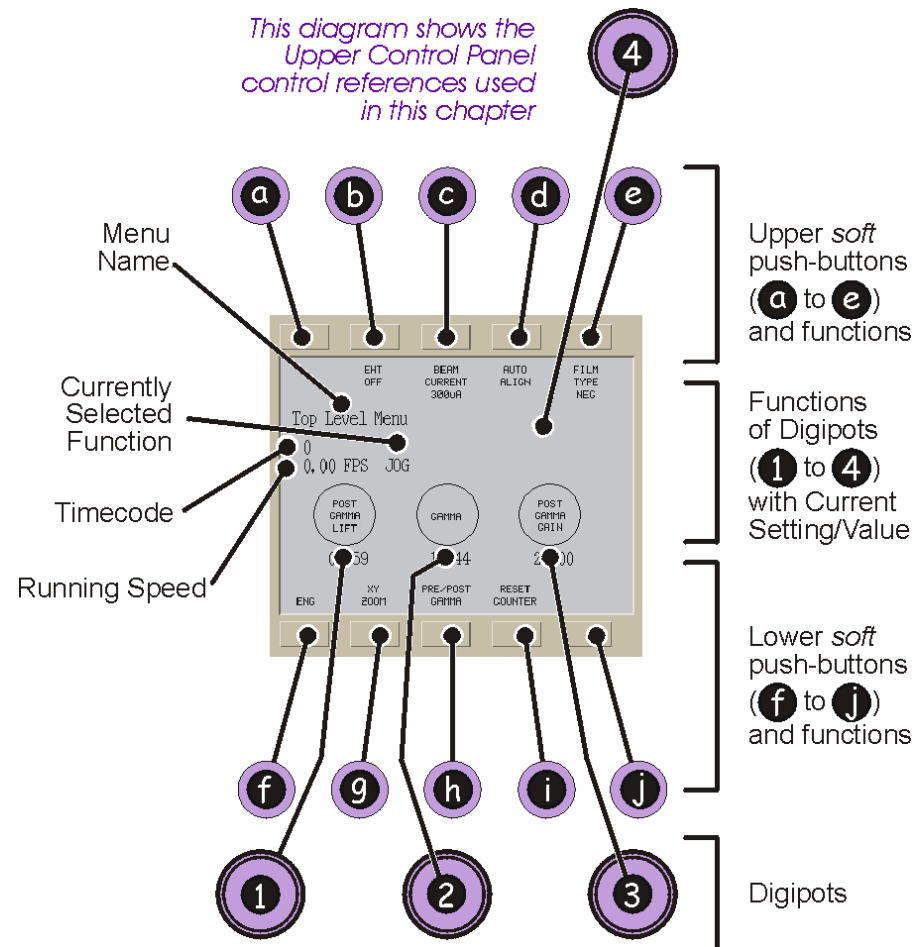
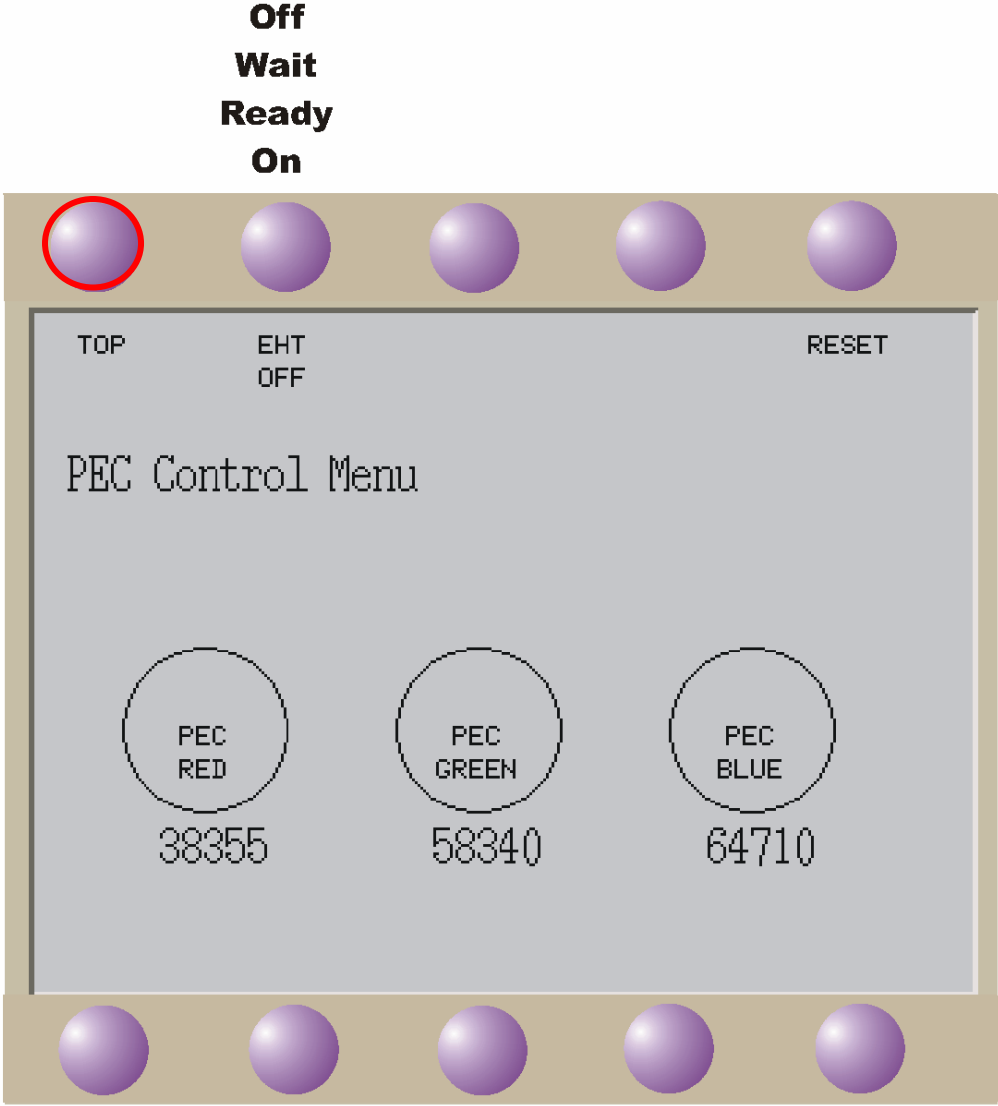

Figure 5 Typical Display Layout
Fig 9 PEC Levels
Press PEC to display the PEC Control Menu (see Figure 9) on the adjacent display and allocate control of signal detector PEC levels to the three digipots ①, ②, ③ (identified in Figure 5). This control is disabled when PEC level adjustment is inappropriate, for example, when the Auto Alignment Menu is selected. The adjacent LED is illuminated when this mode is selected.
The typical layout of the display is shown in Figure 5